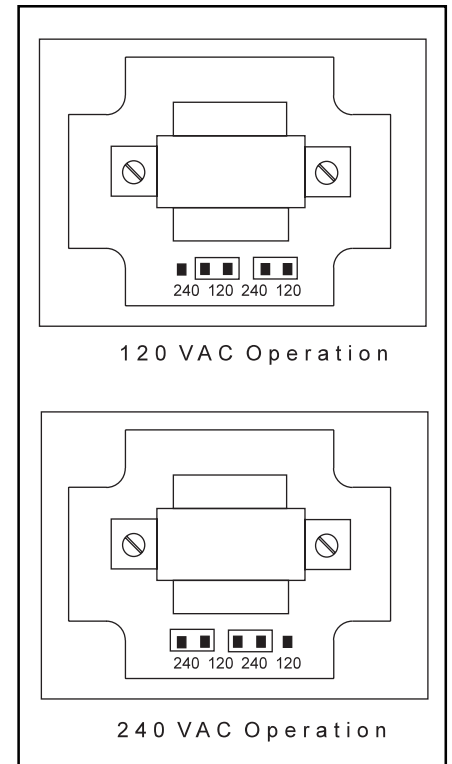

Figure 6: 120/240 VAC Selection
- Configure the AC jumpers for either 120 or 240VAC operation. See Figure 6.